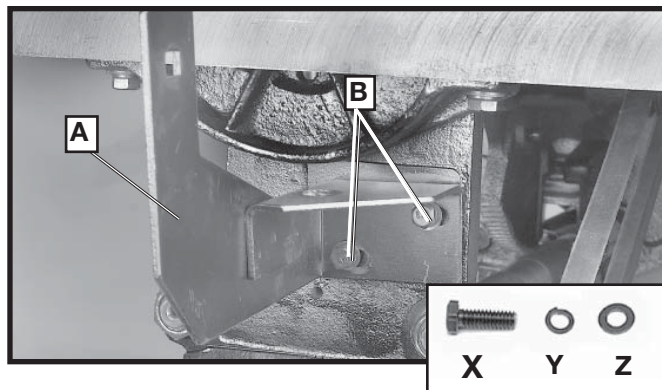
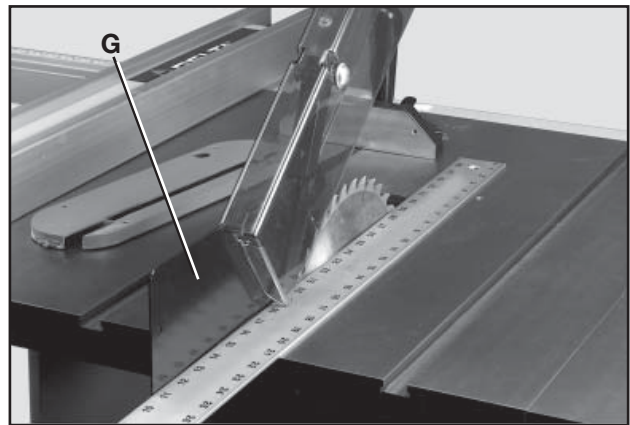

Fig. 43
Fig. 51
1. Fasten the rear splitter mounting bracket (A) Fig. 43, to the rear trunnion. Align the two holes in the rear splitter mounting bracket (shown at B) with the two holes in the trunnion. Place a $\frac{1}{4}$ " Lock Washer onto a $\frac{1}{4}$ " -20 x $\frac{3}{4}$ " Hex Head Screw, place a $\frac{1}{4}$ " Flat Washer onto the hex head screw, insert the hex head screw through the hole in the rear splitter mounting bracket and thread the hex head screw into the rear trunnion. Repeat this process for the remaining hole. **Do not completely tighten the two screws (B) at this time.**
10. Using a straight edge, check to see if the rear of the splitter (G) is aligned with the saw blade, as shown in Fig. 51. If alignment is necessary, loosen the screws (B) Fig. 43, align splitter (G) with the saw blade, and tighten two screws (B) Fig. 43.